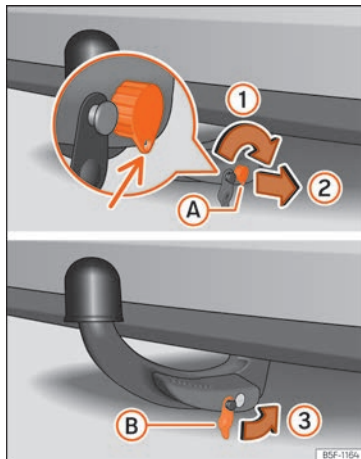

Fig. 302 Putting the tow hook in place. Step 2.
- Turn the key to the right just half a turn, until the hole in the key faces downwards >>> Fig. 302 (1).
- Remove the key (2).
- Place the cover (B) on the lock (3) >>> Fig. 302 >>> ⚠.